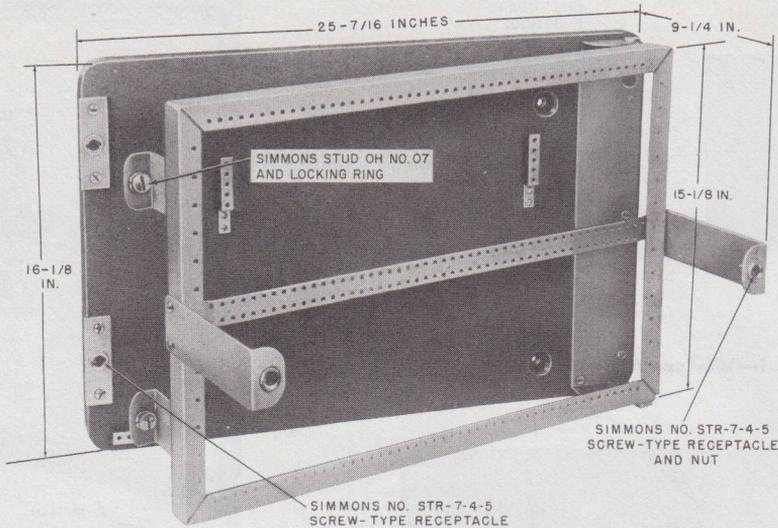

Fig. 5—16A(MD) Apparatus Mounting
2.06 The 16A (MD) apparatus mounting (Fig. 5) is a hinged metal framework plus backboard used primarily for panel-type 200-series KTUs. It has twice the capacity of the 31A or 31B apparatus mounting and can be wall-mounted or floor-supported (using ED-95023-70 metal stand). For attaching the hinged gate of the 16A apparatus mounting to a metal backboard, use the D-179863 kit assembly. This kit consists of a die-cast aluminum backboard